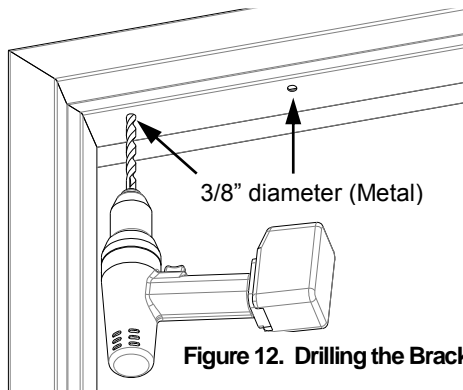

Figure 12. Drilling the Bracket Mounting Holes
7. DRILL two (2) 3/8" diameter holes at bracket-mounting hole marks (see Figure 12, "Drilling the Bracket Mounting Holes"); DO NOT oversize.